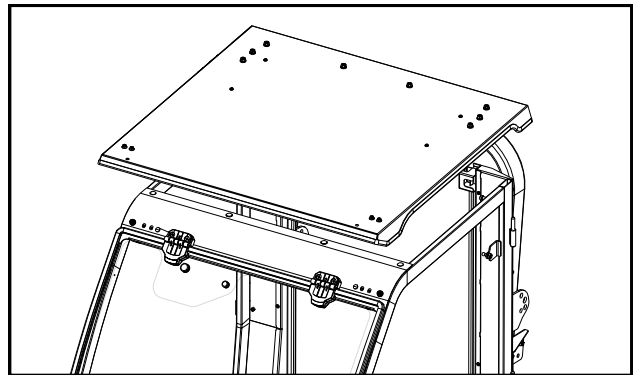

Fig. 13.1 (roof installation)
13.1 With assistance, lift the roof onto the side frames. See fig. 13.1. Take care not to engage the quick release latches with the side frame latch pins.